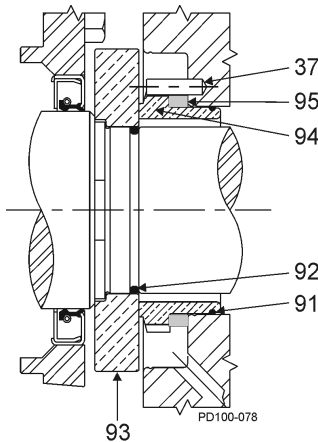
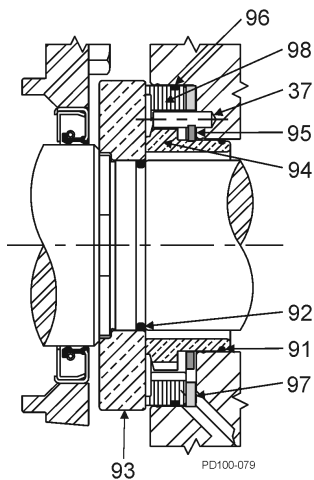
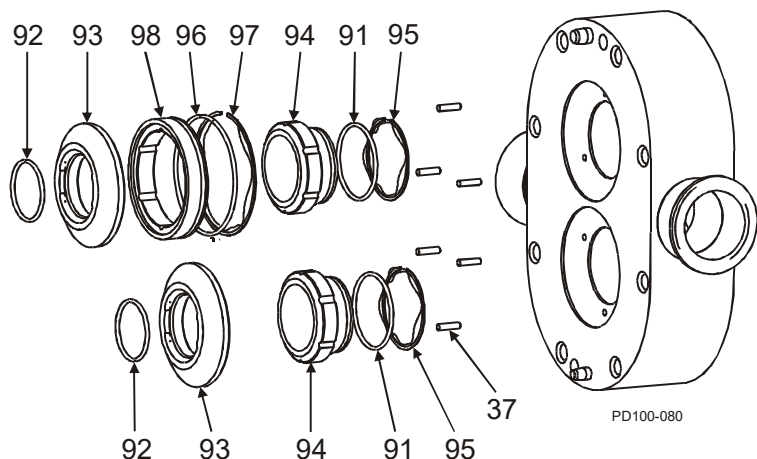

Figure 76 - Single Mechanical Seal
Figure 77 - Double Mechanical Seal
Figure 78 - Single (Bottom) and Double (Top) Mechanical Seal
Table 10: Callouts for Figure 76, Figure 77, and Figure 78
1. Lubricate the shaft O-ring (Figure 76, item 92) with a lubrication compound compatible with the O-ring material and process fluid(s). Place the O-ring on the shaft.
2. Install the rotating seal seat (item 93) on the shaft. Align the drive flats on the seat with the drive flats on the shaft.
4. Install the inner wave spring (item 95) onto the inner seal (item 94).
5. Lubricate the inner seal O-ring (item 91) with a lubrication compound compatible with the O-ring material and process fluid(s). Install the inner seal O-ring into the groove of the inner seal.
7. If a double mechanical seal is used, install the outer wave spring (Figure 77, item 97) in the body and the outer O-ring (item 96) in the outer seal groove (item 98). Place the outer seal in the pump body around the inner seal, aligning the notches in the outer seal with the stop pins in the body.